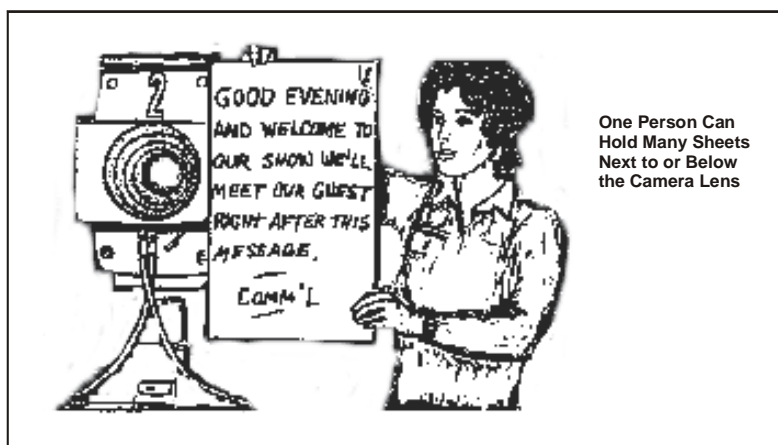

Figure F-7. Idiot Cards in Use
(3) Idiot cards refer to cue cards generally held by a crewmember next to or below the lens of the ON-AIR camera. Idiot cards are long thin strips of paper mounted on cardboard approximately 14 by 22 inches. The strips are hand-lettered with black grease pencil or felt tip pen. The crewmember holding the cards moves them up so that the line being read is parallel with the camera lens (Figure F-7).